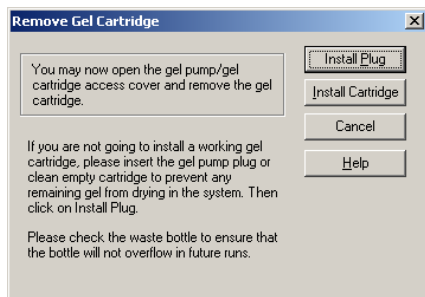

Figure 9.45 Remove Gel Cartridge Dialog Box
10. In the Remove Gel Cartridge dialog box (Figure 9.45):